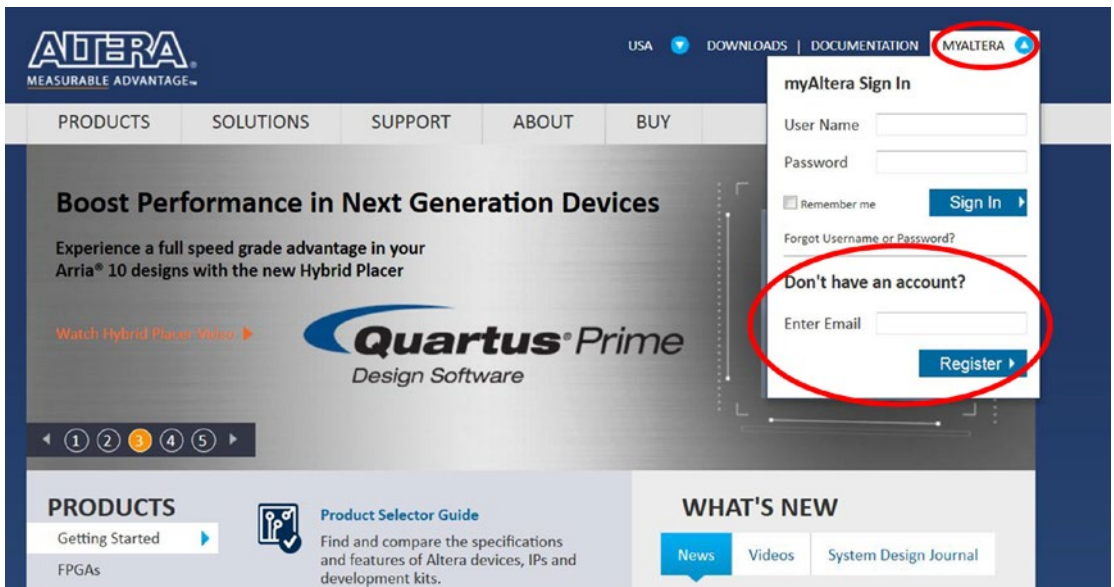

Figure 3-2. myAltera Sign In
1. After you arrive at the Altera web site (www.altera.com), click **MYALTERA** in the top right-hand corner. You'll be given the option of either **myAltera Sign in** or **Don't have an account?**. Since you don't have a myAltera account yet, enter your e-mail address in the **Don't have an account?** section and click **Register** (Figure 3-2).